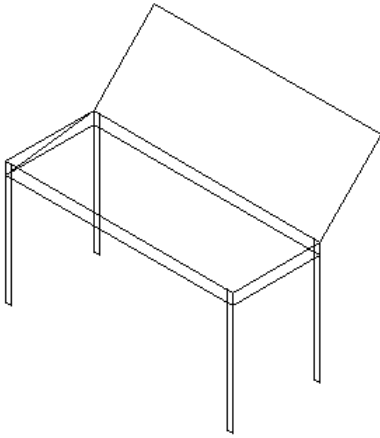

Figure 21-8: The completed wireframe piano bench.
13. Save your drawing. It should look like Figure 21-8.